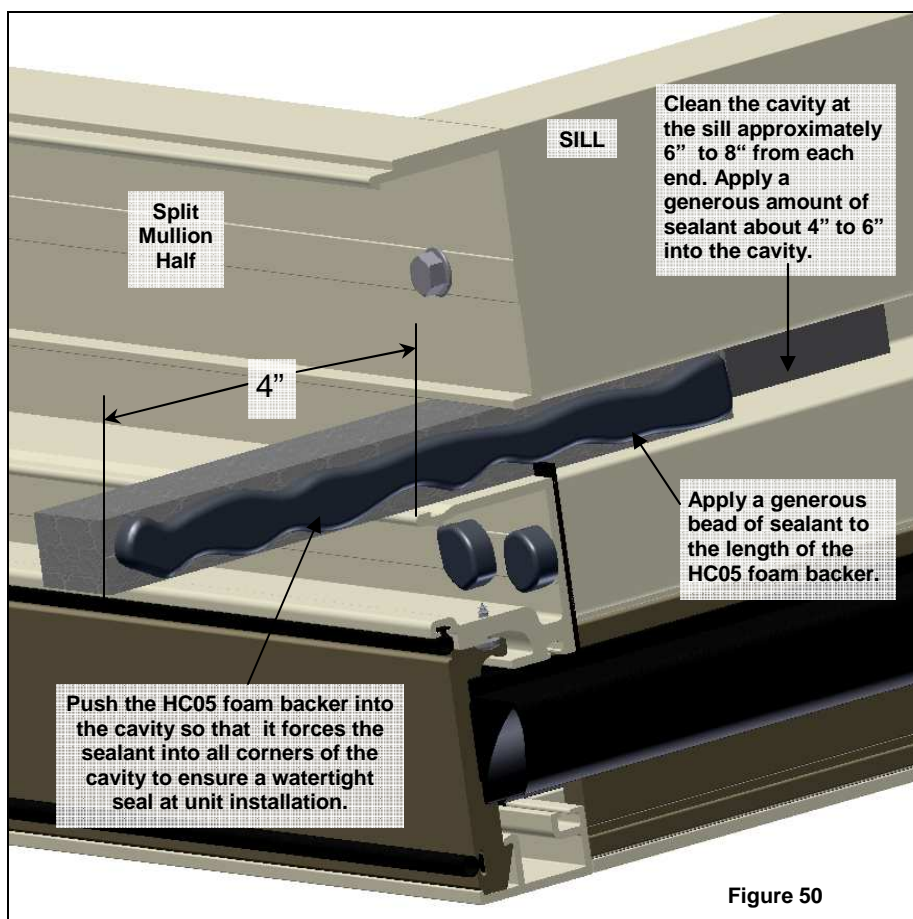

Figure 50
- e. **Using an approved solvent or cleaner, clean the sealant contact surfaces of the expansion cavity of the stack sill and jamb of all oils and other contaminants.** See Figure 50.
- f. Apply a generous amount of sealant in both ends of the stack cavity approximately 4" to 6" long. See Figure 50.
- g. Place the HC05 foam sealant backer into one end of the stack cavity with approximately 4" extending out of the cavity at split mullion and about 1/2" extending from the face at jamb. The HC05 foam sealant backer should be applied to the jamb or split mullion half where the backer will be exposed after the frame has been set. See Figure 50. The HC05 will be applied at both side of the jamb condition unit on each row. All sequential units will get sealant on both side but will only get one HC05. These units will get the HC05 in the side opposing the previous unit.
3. Ensure the HC05 caulk backer has been inserted into the sill as shown in Figure 50 on page 26. Note that jamb units will receive HC05 on both ends of the sill. Subsequent units will require HC05 on the right end only of the unit sill as viewed from the exterior.